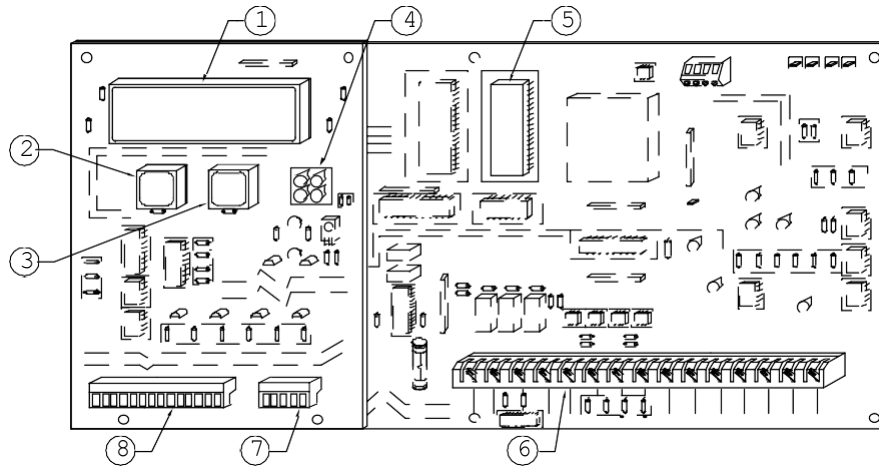
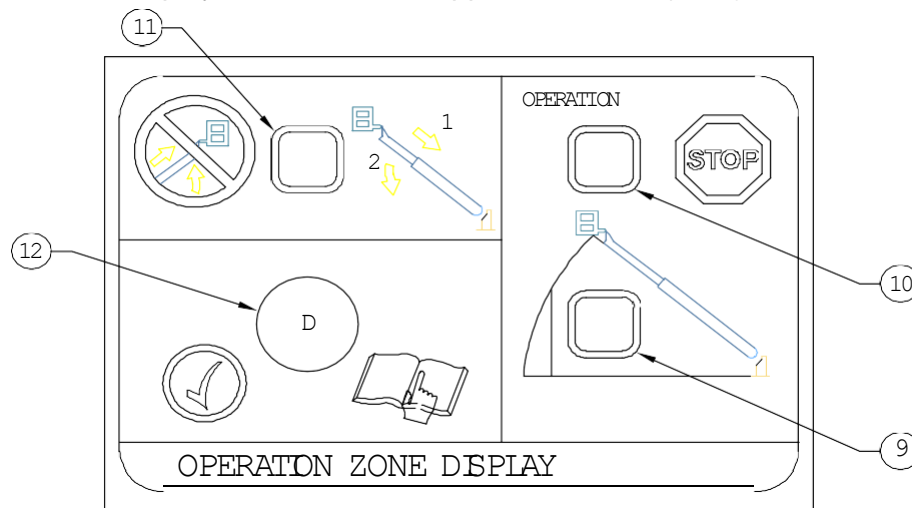

Figure 1. Data Display
Figure 2. Operating Display
To identify the problem with the DS105 system use the data display shown in Figure 1. Always check the data display for length, angle, or sensor millivolt readings before beginning the troubleshooting section. It is the simplest way to identify the problem and solution.
Refer to Figures 1 and 2 on page 3 and DS 105 Operator Handbook (031-300-190-004) for display information
NO, Refer to Figure 2, #9 and #10. Retract or raise the platform into the operating zone.
STEP 2. Is system Error warning light flashing(Figure 1 #4 and Figure 2 #10) and an error code displayed at on LCD Figure 1 #1? Scroll to '0:' to identify error code.
STEP 4. Check power supply at the PAT System. Open Lower Control Box(LCB). Ensure power is turned off and connect a voltmeter(selecting VDC) to Figure 1, #6 with (+) probe to X1/1 and (-) probe to X1/5 on the PAT mainboard. Power the system and the measured voltage should be 9 to 18VDC. Refer to Drawing in Appendix A. Is the voltage correct?
STEP 6. Check power supply from cut-out terminal of the PAT mainboard. Ensure power is turned off and connect a voltmeter(selecting VDC) to #6 Figure 1 with (+) probe to X1/12 and (-) probe to X1/5 on the PAT mainboard. Power the system and the measured voltage should be 9 to 18VDC. Refer to Drawing in Appendix A. Is the voltage correct?
System error warning light flashing Figure 1 and 2, #4 and #11 and NO Operating Zone #10 lit.
Refer to Figures 1 and 2 and DS 105 Operator Handbook (031-300-190-004) for display information.
STEP 1. Does Data Display Figure 1, #1 at '0:' indicate a error code?
STEP 2. Disconnect the main board connection X8, Figure 1. #7. Does Data Display Figure 1, #1 at '0:' indicate an error code?
Refer to Figures 1 and 2 and DS 105 Operator Handbook (031-300-190-004) for display information
STEP 1. Check terminal connections X3 Figure 1, #7 on PAT mainboard. Open LCB. Ensure power is turned off. Visually inspect wiring and connections at X3/1 through X3/8, ensure wires are not loose and are making good contact. Refer to Appendix B. Do wires make good visual contact?
STEP 2. Check power supply at the PAT System. Open LCB. Ensure power is turned off and connect a voltmeter(selecting VDC) to Figure 1 #6 with (+) probe to X1/1 and (-) probe to X1/5 on the PAT mainboard. Power the system and the measured voltage should be 9 to 18VDC. Refer to Drawing in Appendix A. Is the voltage correct?
STEP 4. Check power supply at X3 Figure 1, #7 on PAT mainboard. Open LCB. Ensure power is turned off. Remove the X3 plug from its socket and connect a voltmeter with (+) probe to X3/1 and (-) probe to X3/8 on the PAT mainboard. Power the system and the measured voltage should be 7.0VDC. Refer to Appendix B. Is the voltage correct?